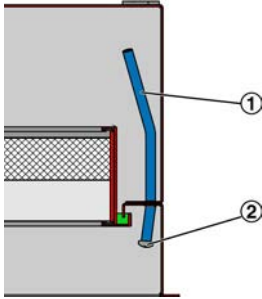

Fig. 7: Measuring tube
Temporary measurement: Temporary differential pressure measurement with a mobile measurement device connected to the internal measuring tube (Fig. 7/2). For this measurement you have to remove the diffuser face, ☞ 8.
- Plus (+) - to the internal measuring tube (Fig. 7/2)